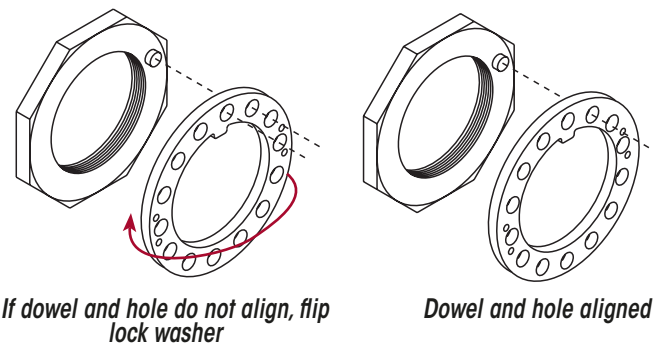

Figure 48: Adjusting Nut and Lock Washer Installation
2. Install the lock washer. Make sure the lock washer tang fits in the spindle keyway slot and the inner nut dowel fits in one of the holes in the lock washer. If this alignment cannot be achieved, remove the lock washer, flip it over and reinstall the lock washer. Refer Figure 48.